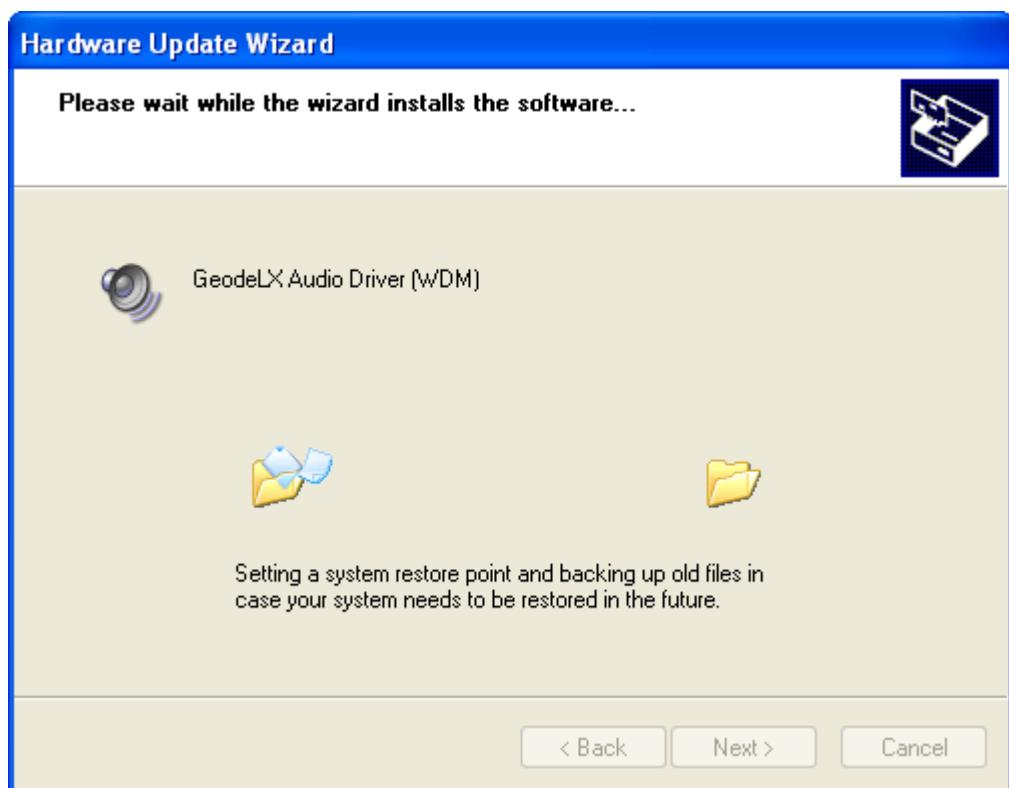

Figure 7-22: Audio Driver Installation
Step 40: The Wizard updates the driver. See **Figure 7-22**.